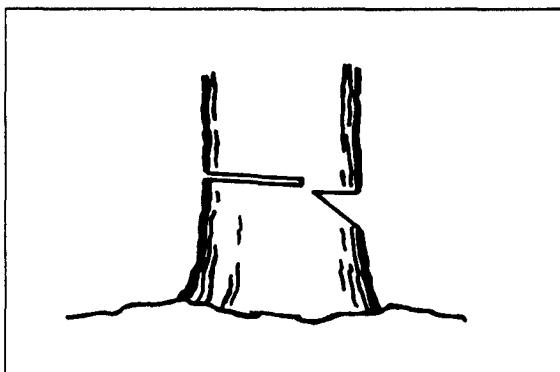

**Figure 5-4. Clearing away small brush and saplings**
b. *Brushing Out*. Clip off small brush close to the ground (Figure 5-4). Pulling on